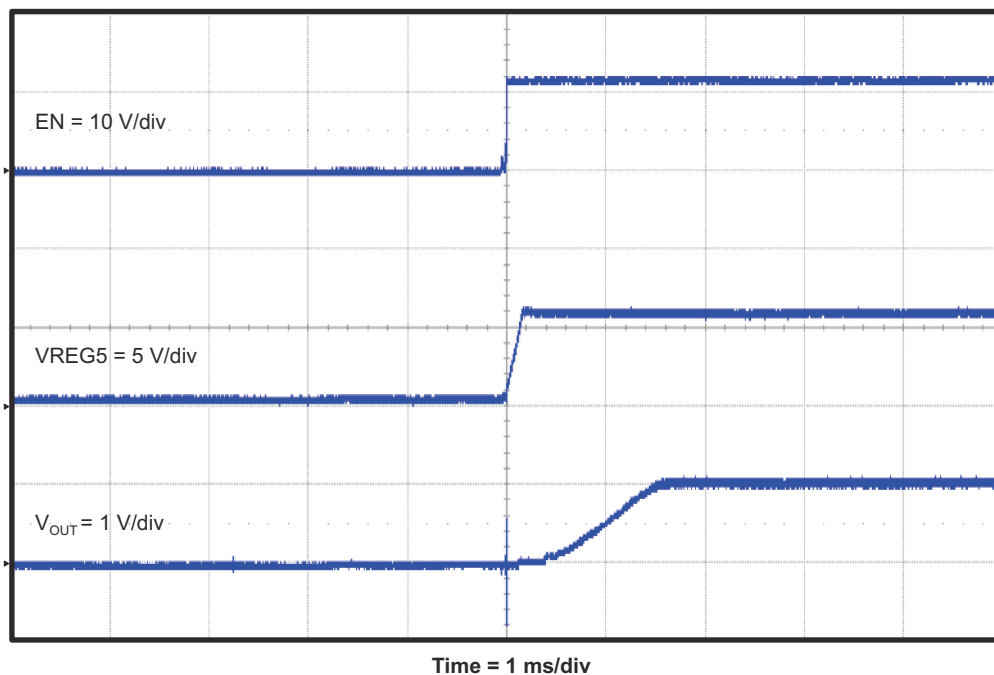

Figure 4-9. TPS54526EVM-608 Start-Up Relative to Enable
The TPS54526EVM-608 start-up waveform relative to enable (EN) is shown in Figure 4-9.